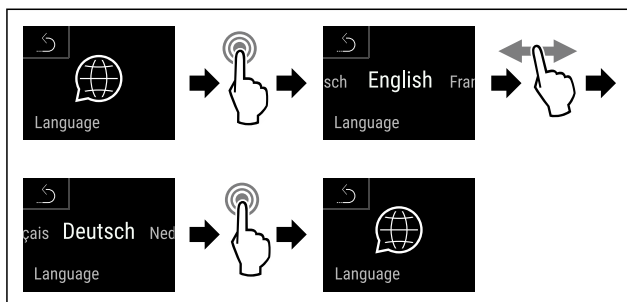

Fig. 89
- ▶ Complete steps (see Fig. 89).